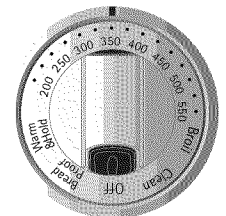

Figure 3
3. Turn the temperature control knob to 350 (Figure 3).